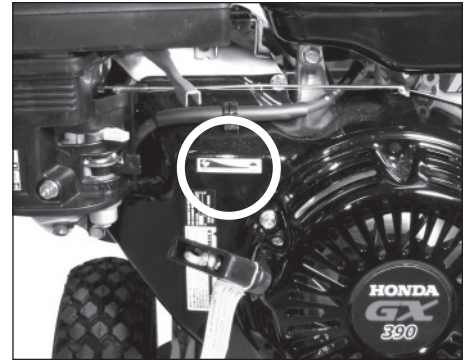

Figure 12 - Throttle
7. Open the fuel shutoff valve by turning the lever to the right / "ON" position. Close the choke (if the engine is cold) by moving the choke lever fully to the left. Move the throttle fully to the left to the "Run" or "Rabbit" position. Turn the ON / OFF switch to the "ON" position (see Figure 12).